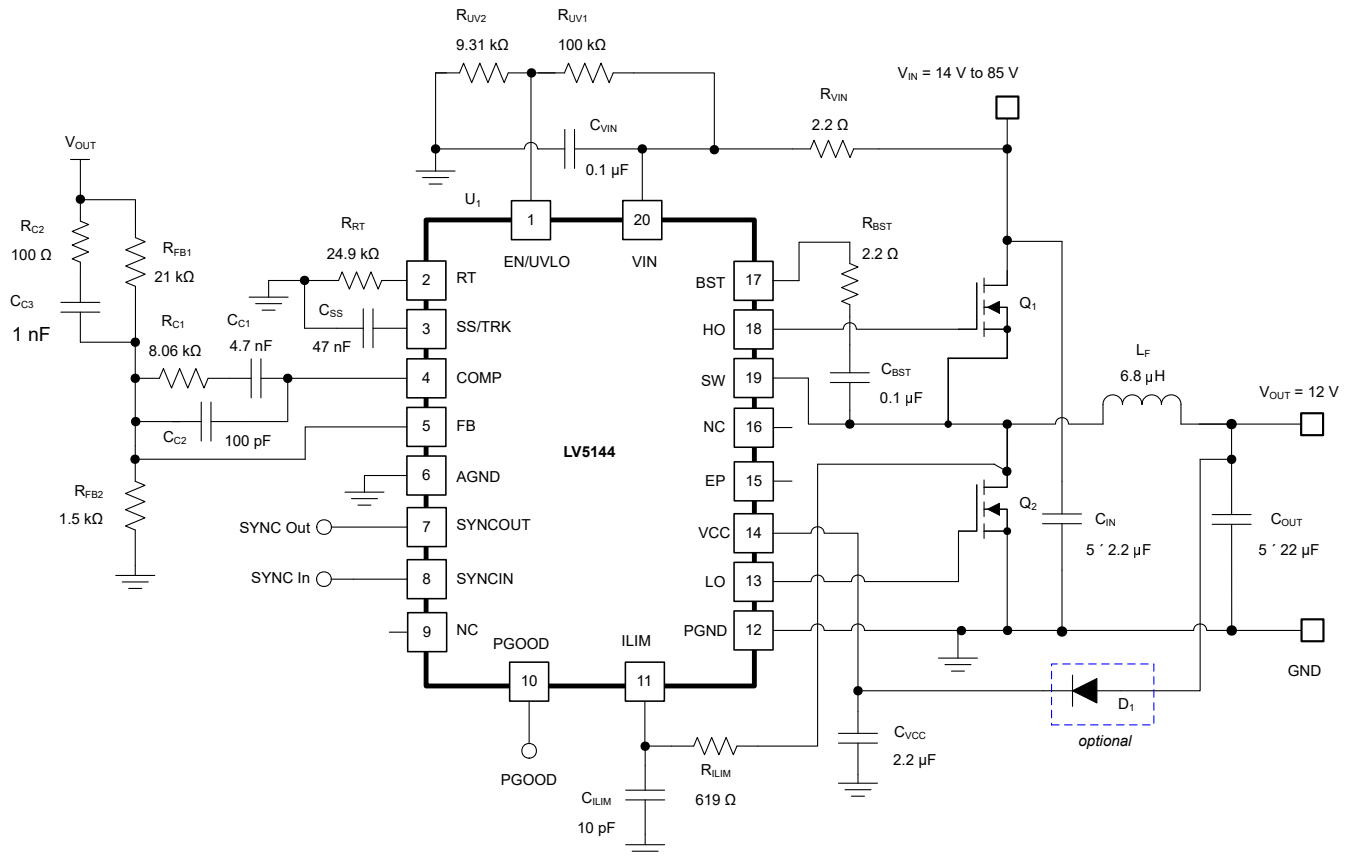

图 9-16. Application Circuit 2 With LV5144 48-V to 12-A Synchronous Buck Regulator at 400 kHz
图 9-16 shows the schematic diagram of a 400-kHz, 12-V output, 8-A synchronous buck regulator intended for 48-V telecom applications.
As shown in 图 9-16, a 2.2- Ω resistor in series with C_{BST} is used to slow the turn-on transition of the high-side MOSFET, reducing the spike amplitude and ringing of the SW node voltage and minimizing the possibility of C_{dv}/dt -induced shoot-through of the low-side MOSFET. If needed, place an RC snubber (for example, 2.2 Ω and 100 pF) close to the drain (SW node) and source (PGND) terminals of the low-side MOSFET to further attenuate any SW node voltage overshoot or ringing. Please refer to the application note Reduce Buck Converter EMI and Voltage Stress by Minimizing Inductive Parasitics for more detail.
3. Placing a 2- Ω to 10- Ω resistor in series with the boot capacitor, as shown in Figure 9-16, slows down the high-side MOSFET turn-on transition, serving to reduce the voltage ringing and peak amplitude at the SW node at the expense of increased MOSFET turn-on power loss.